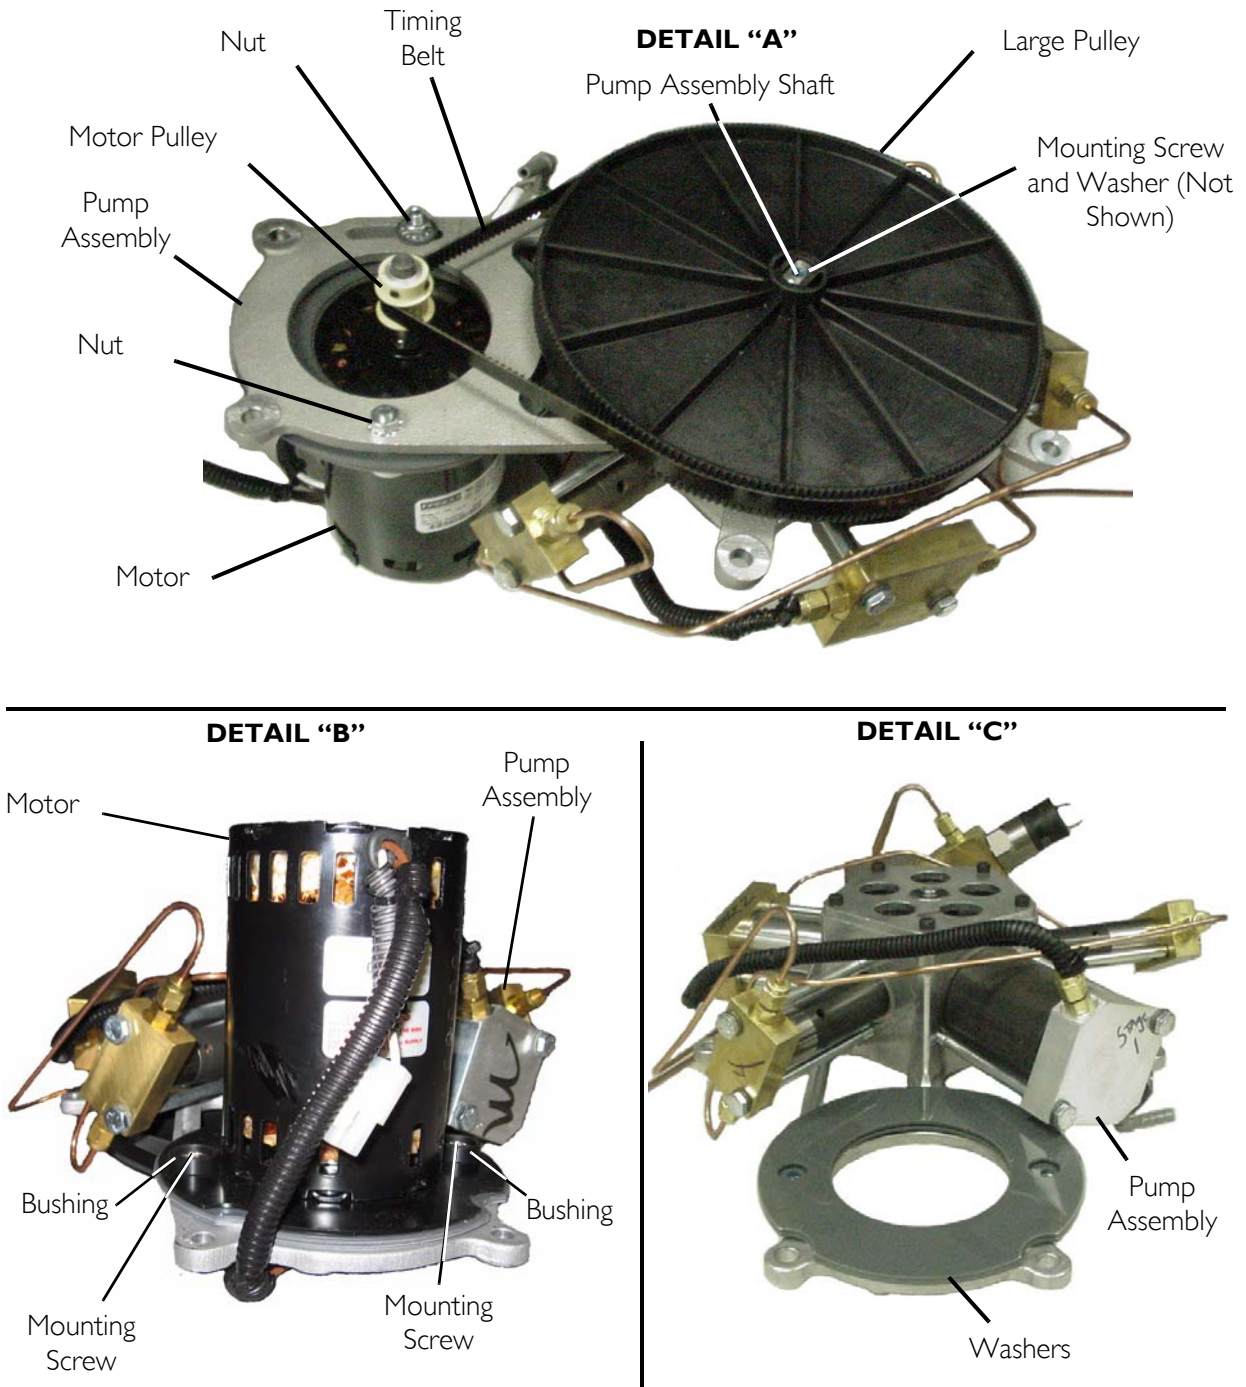

FIGURE 11.6 Belt and Pulley Upgrade
25. Using a $\frac{7}{16}$ open ended wrench, loosen the two nuts securing the motor to the pump assembly (FIGURE 11.6).
26. Slide the motor to remove the belt tension and remove the timing belt (FIGURE 11.6).
27. Remove the two nuts (Detail "A"), two washers (Detail "C"), two mounting screws (Detail "B"), and two bushings (Detail "B"). Refer to FIGURE 11.6 on page 80.
30. Remove the mounting screw and washer (Detail "A") that secure the large pulley to the pump assembly shaft. Refer to FIGURE 11.6 on page 80.
2. Place the new motor (with motor pulley) assembly and washers onto the pump assembly. Refer to Details "B" and "C" of FIGURE 11.6.
3. Install the two mounting screws, bushings and nuts. DO NOT fully tighten hardware at this time. Refer to Details "A", "B" and "C" of FIGURE 11.6.